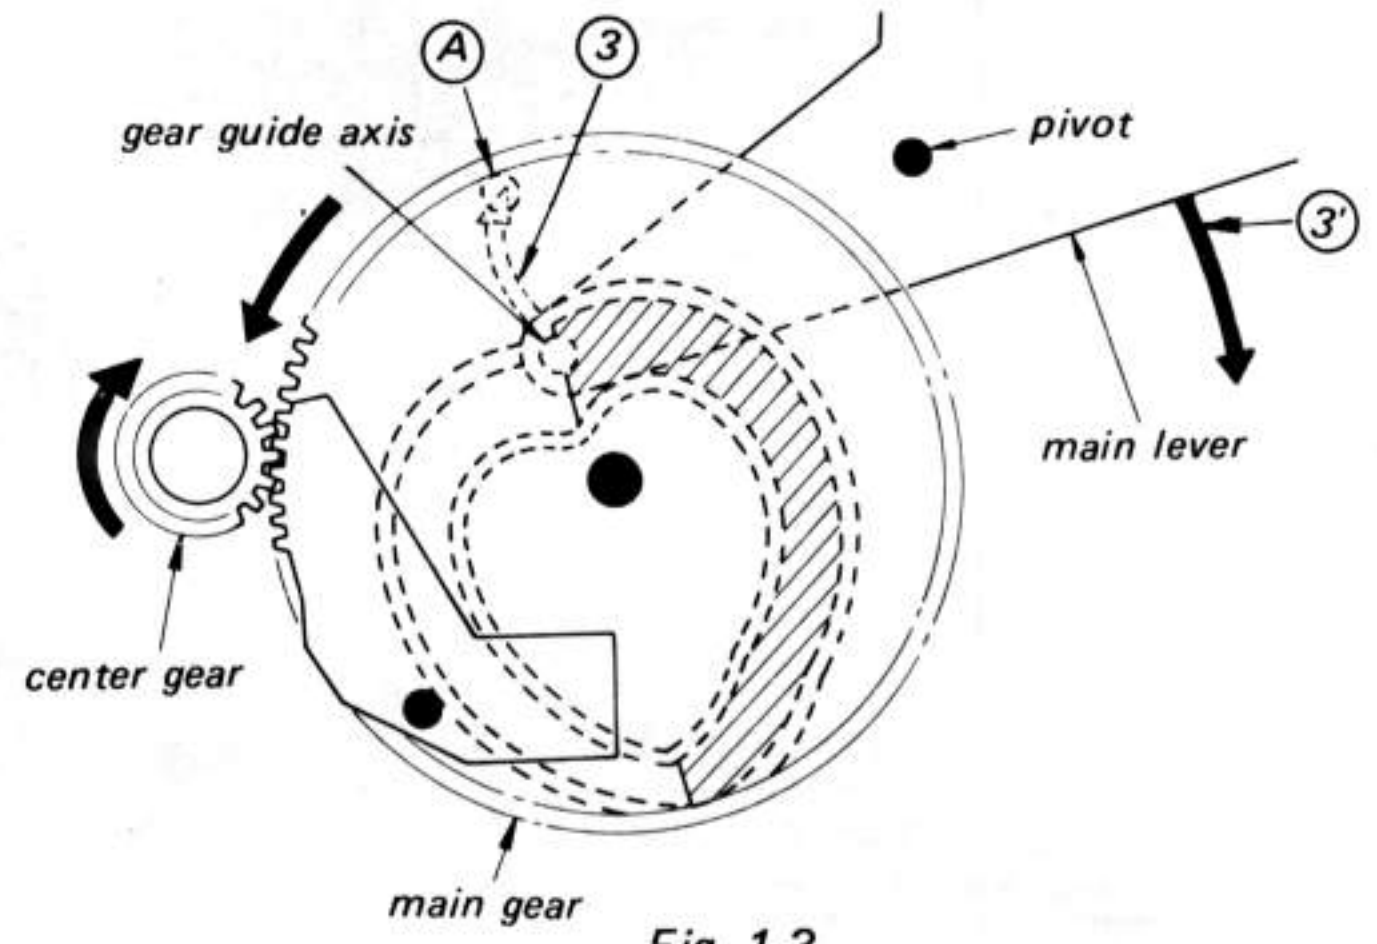
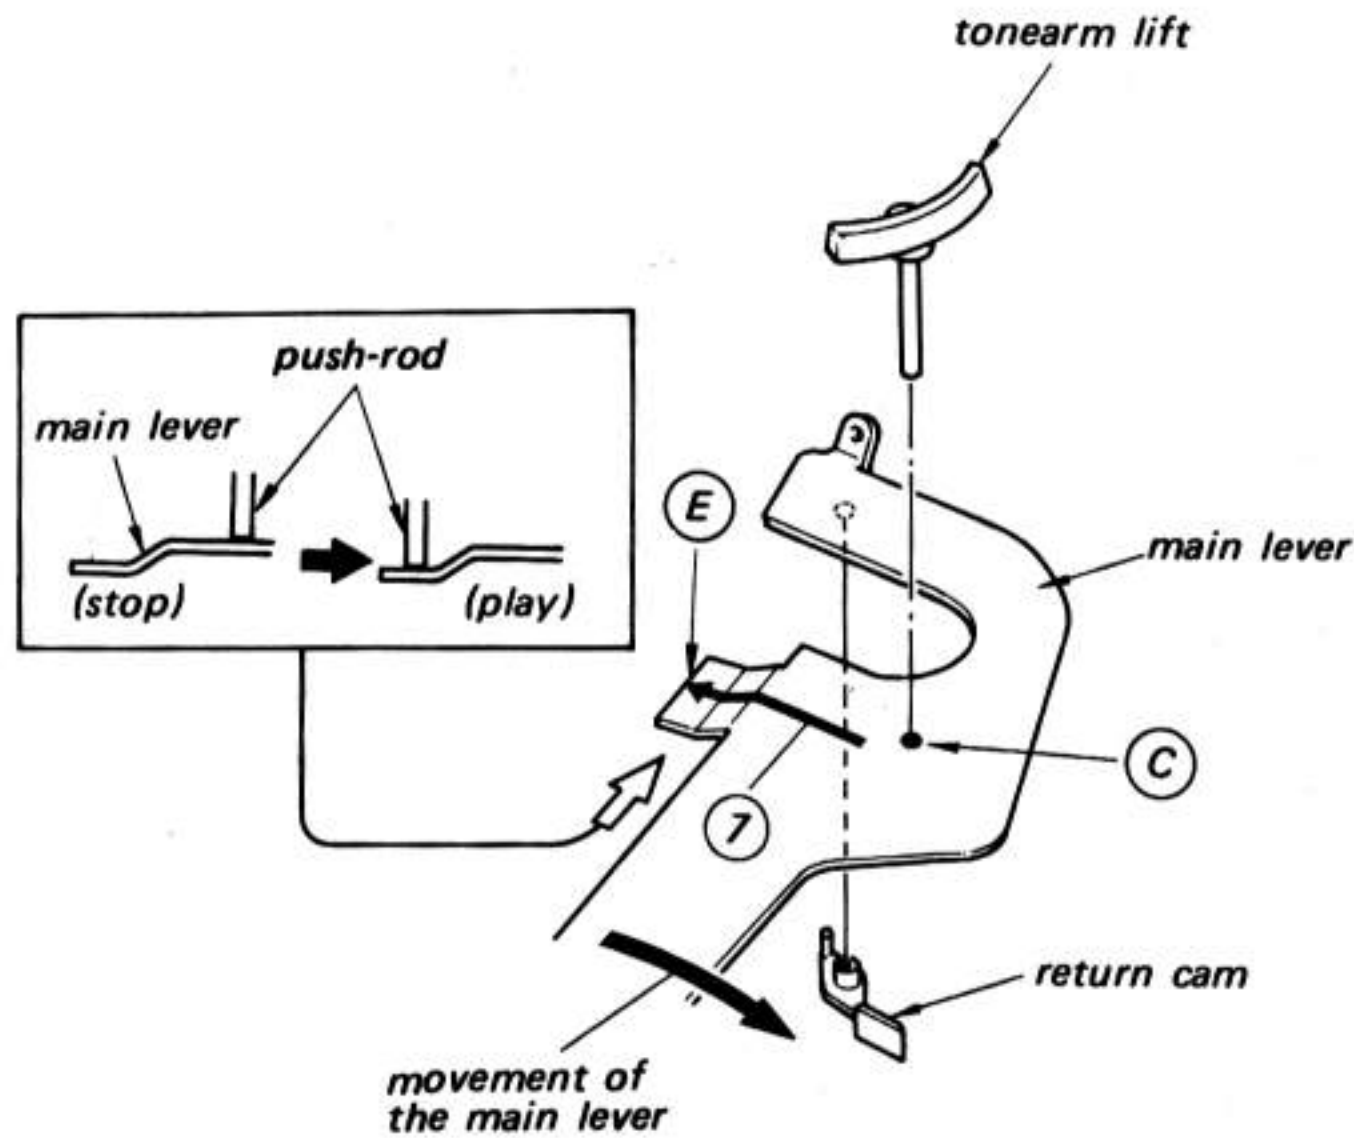
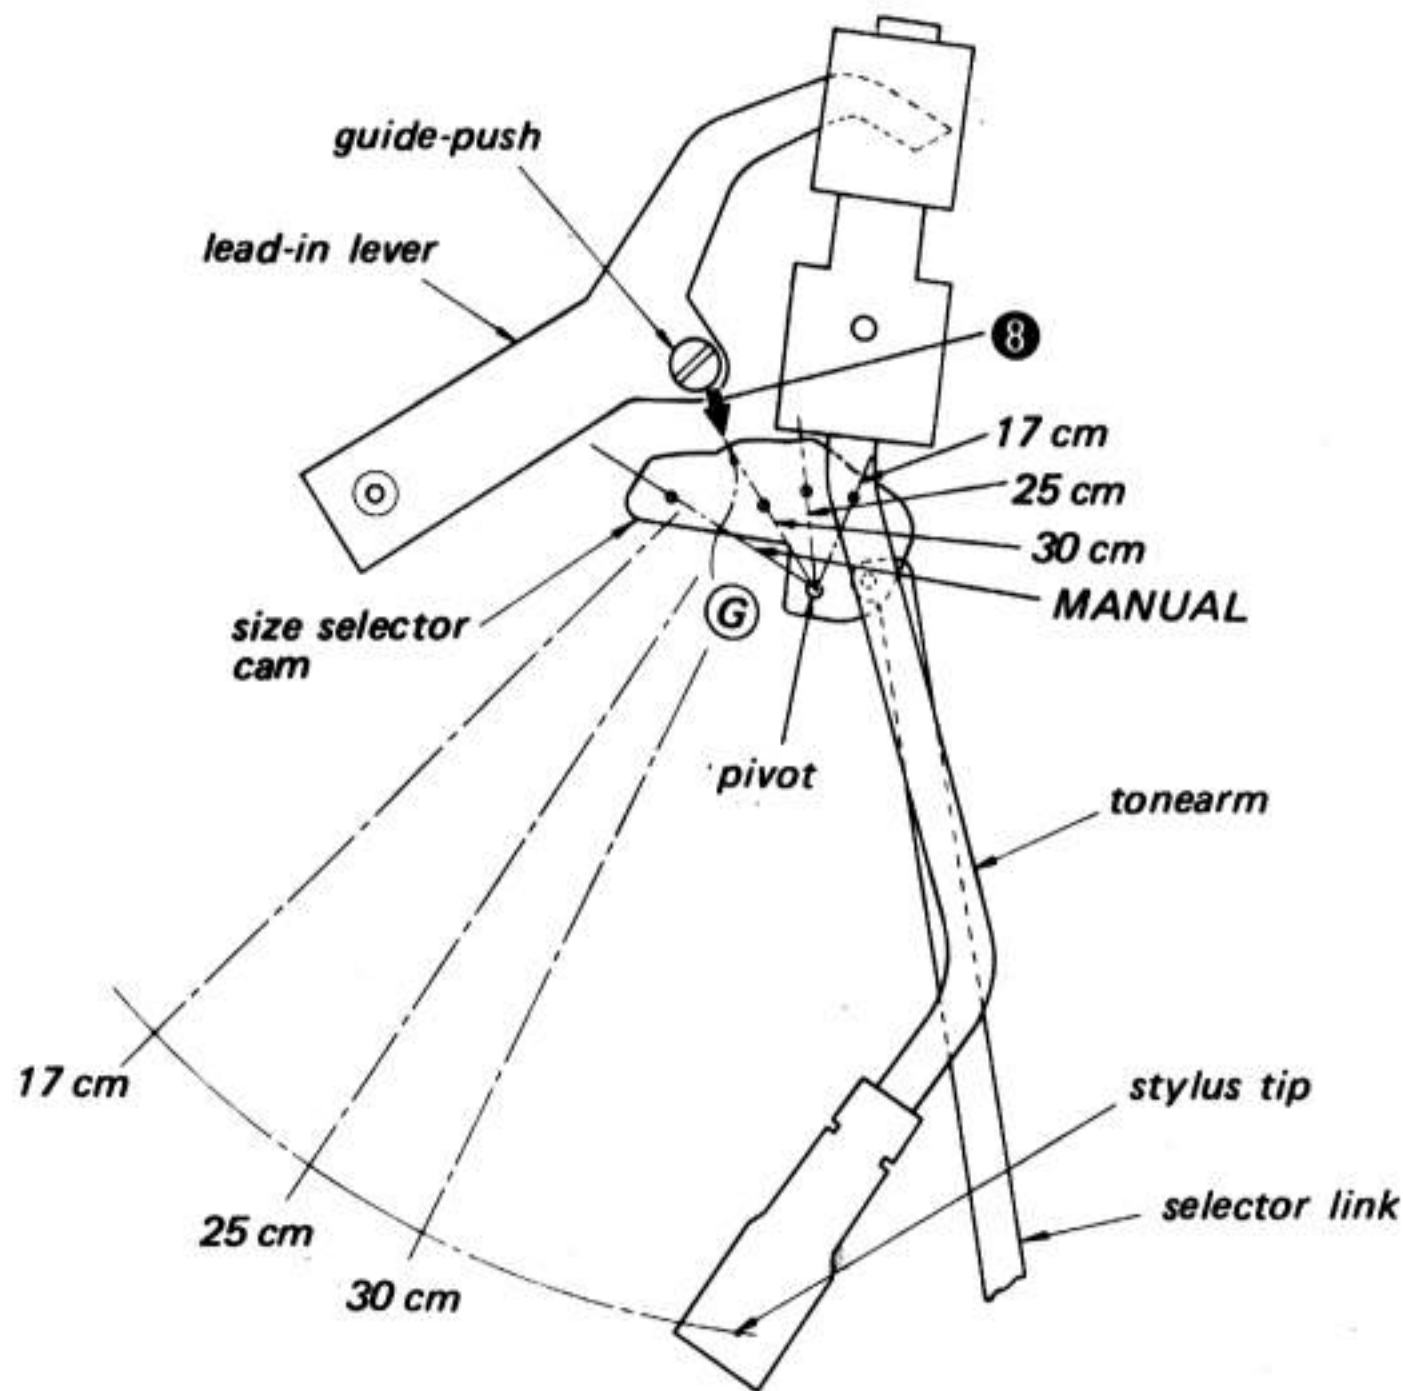
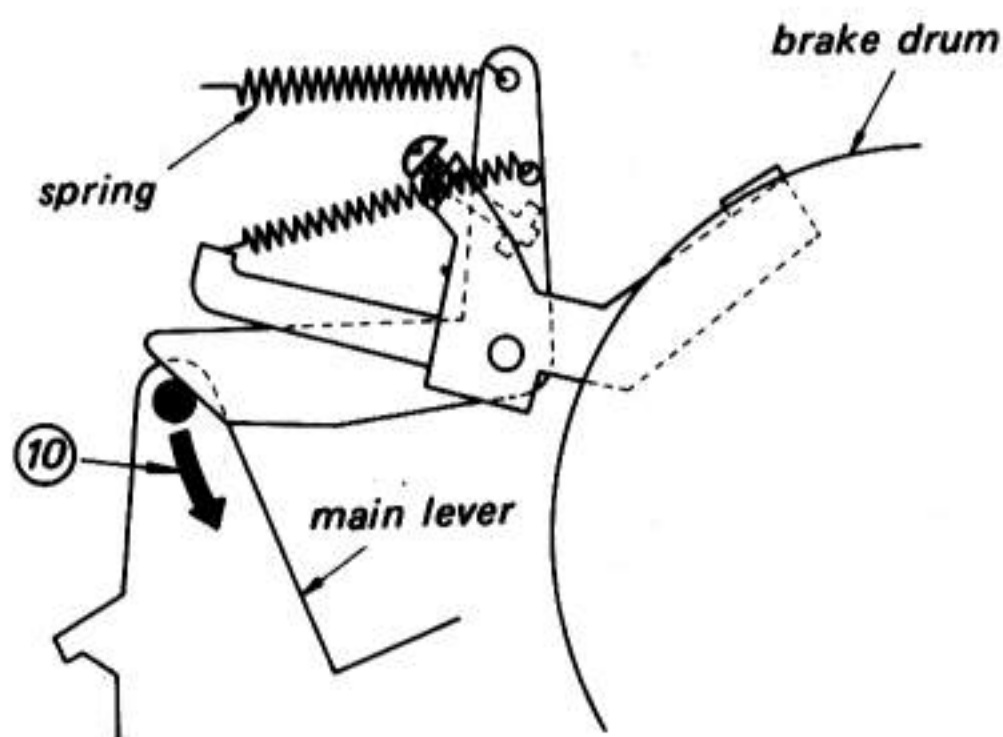

Fig. 1-3.
Fig. 1-5.
Fig. 1-6.
Fig. 1-8.
4. The gear guide axis at the tip of the main lever, is guided by the shaded section of the heart-shaped cam groove located on the main gear, moving across in a curved path ③ to position ①. Therefore, the main lever moves in the direction of arrow ③'. (See Fig. 1-3.)
1. The central axis of the push rod resting against the tonearm lifter is on the position (C) in STOP mode. (See Fig. 1-5.)
2. During lead-in, the main lever moves across in the direction of arrow (3') (See Fig. 1-3), resulting in the position of the central axis of the push rod moving across as shown by arrow (7). (Fig. 1-5.)
3. The guide-push stops at the position determined by the surface (G) (Fig. 1-6) of the record size selector cam. The push rod consequently descends to the lower position (E) of the main lever (Fig. 1-5), resulting in the tonearm lowering onto the surface of the record for the commencement of play.
4. The position where the tonearm lowers (30 cm, 25 cm, 17 cm) is determined by the position of the record size selector cam shown in Fig. 1-6. The guide-push of the lead-in lever moves across in direction of arrow (8) during lead-in, and meets the size selector cam at surface (G) (for the 30 cm example shown), thus determining the drop point at the outer edge of a 30 cm record. That is, this position determines the distance moved by the lead-in lever, which consequently determines the rotational angle of the brake drum (and of the tonearm as well). With the record size selector knob set to the MANUAL position, the lead-in lever moves a little and the tonearm does not move.
- The return cam attached to the main lever (see Fig. 1-5) pushes against the pin of the brake drum, forcing the tonearm to move back (horizontally) towards the arm rest.
- The return operation is completed when the tonearm arrives back at the arm rest. The main gear comes to a stop in the position shown in Fig. 1-3.
Furthermore, a spring is also employed to exert pressure upon the main lever in the direction of arrow ⑩ (see Fig. 1-8), thus keeping the main gear in the stop position. (See Fig. 1-3.)